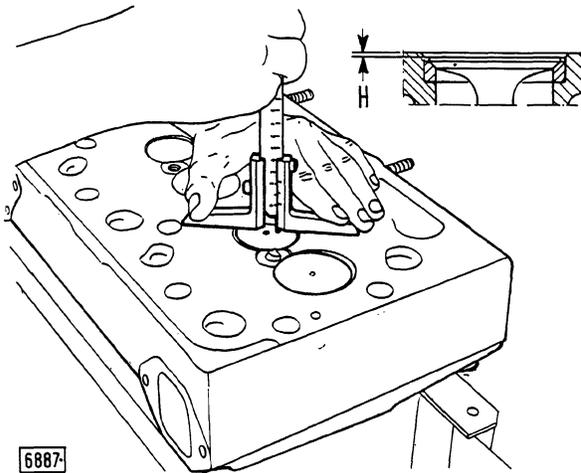
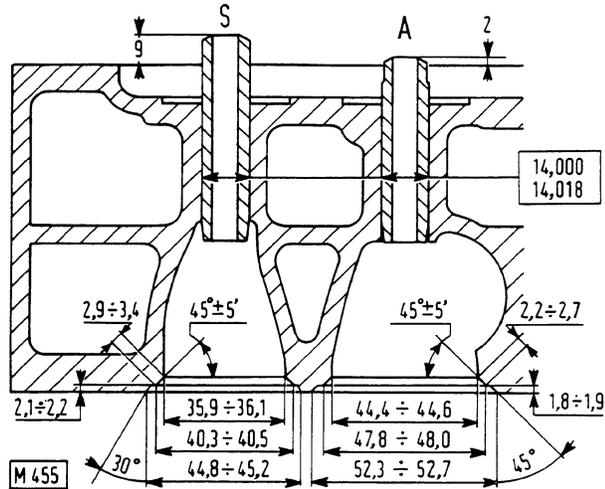

Fig. 9 - Checking valve inset in the cylinder head.
Fig. 13 - Valve seat and valve guide dimensions (Intake A-Exhaust S) on cylinder head and valve guide protrusion on head deck.
- valve inset (H) in the deck is as per fig. 9.
By suitably changing the lathe tools it is possible to reduce the seat width according to fig.13. If after repeated grindings the valve inset in the head exceeds the prescribed value(fig.9) it is possible to salvage the cylinder head by regrinding its contact surface on the block.
- guides installed must protrude above cylinder head as shown in fig. 13;